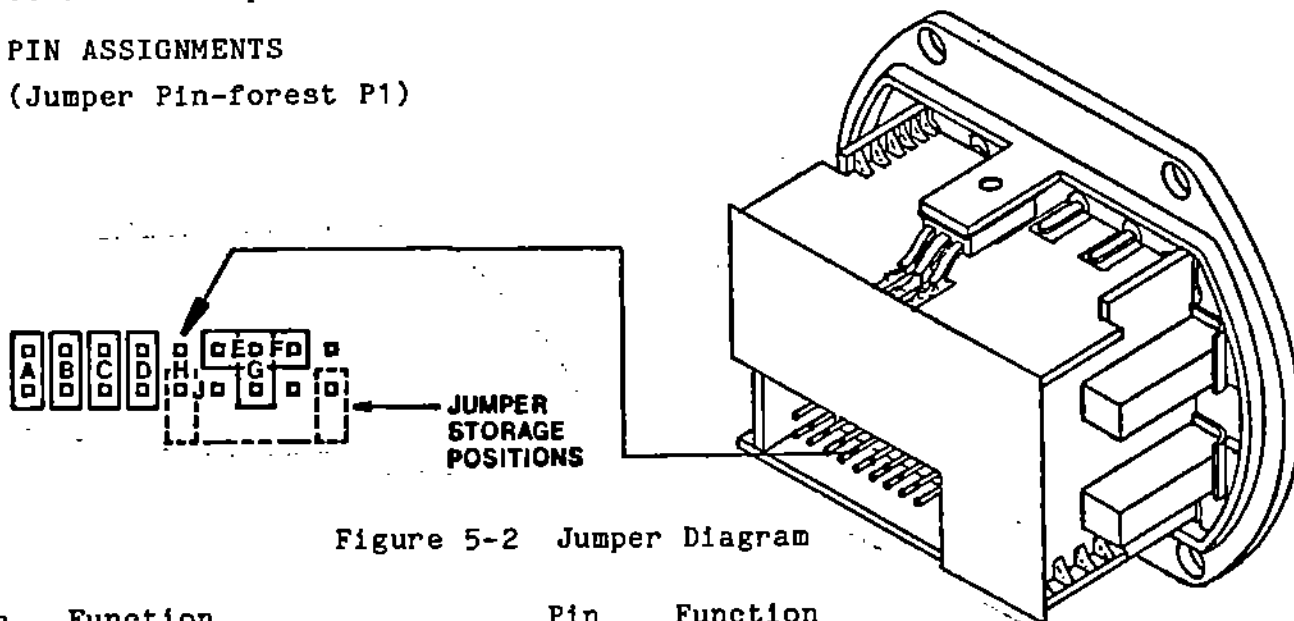

Figure 5-2 Jumper Diagram
5. Turn the transmitter so that the jumper pin-forest is at hand, and move the push-on jumpers to the positions indicated in Figure 5-2 for the range chosen in the previous step. Place unused jumpers in storage positions.